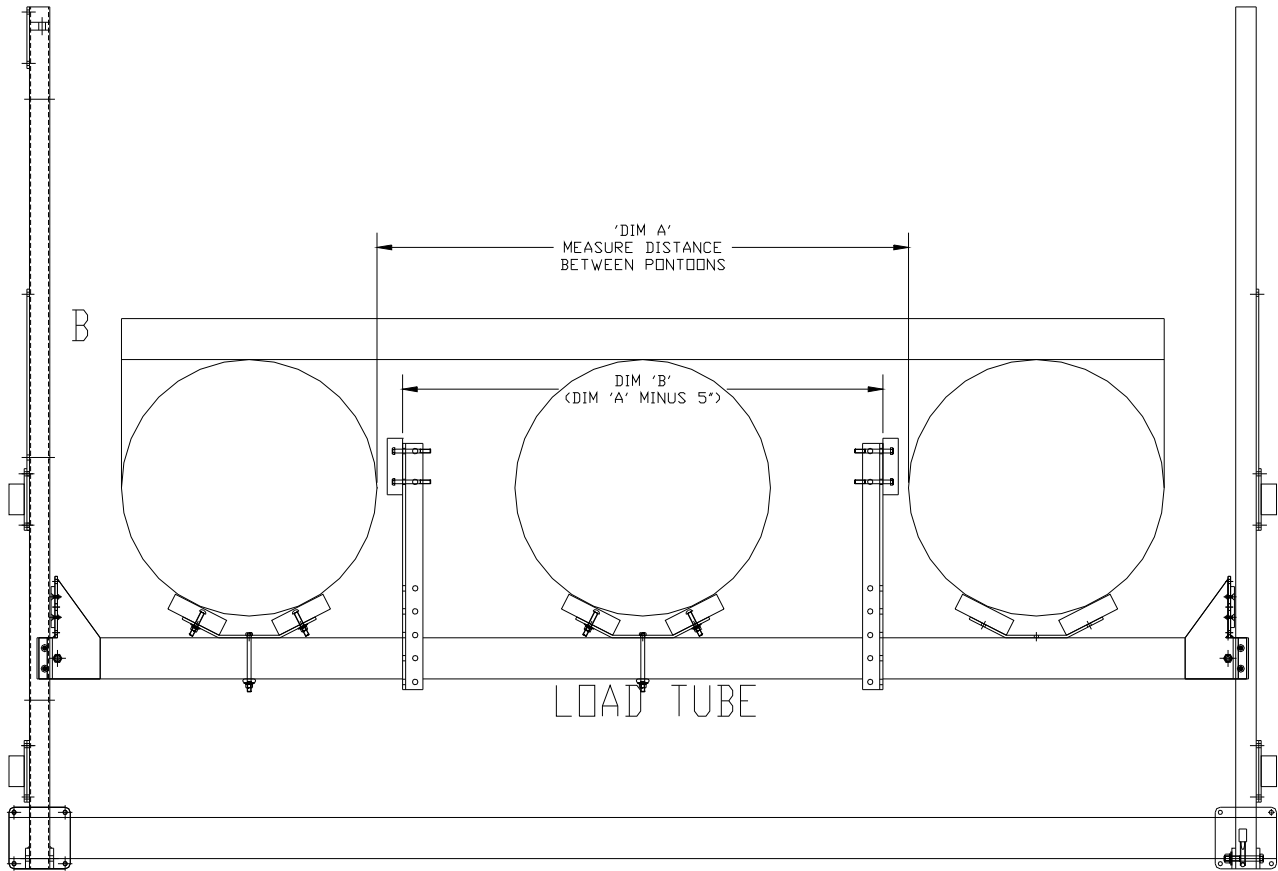

Figure 2-5.
2. Refer to **Figure 2-5**. Measure the distance between the pontoons to determine dimension 'A'.